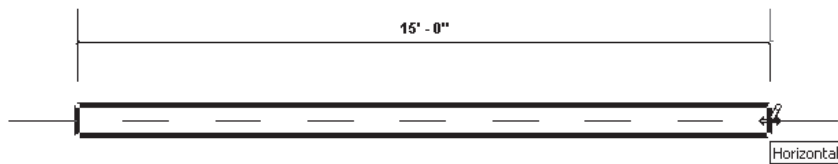

Figure 3-28 Sketching a horizontal wall segment
4. Move the cursor near the horizontal axis so that the dashed line appears inside the wall segment, as shown in Figure 3-28. Notice the two-sided arrow attached to the endpoint of the wall. This indicates that the wall segment being sketched is horizontal. A tooltip indicating the horizontal alignment is also displayed.